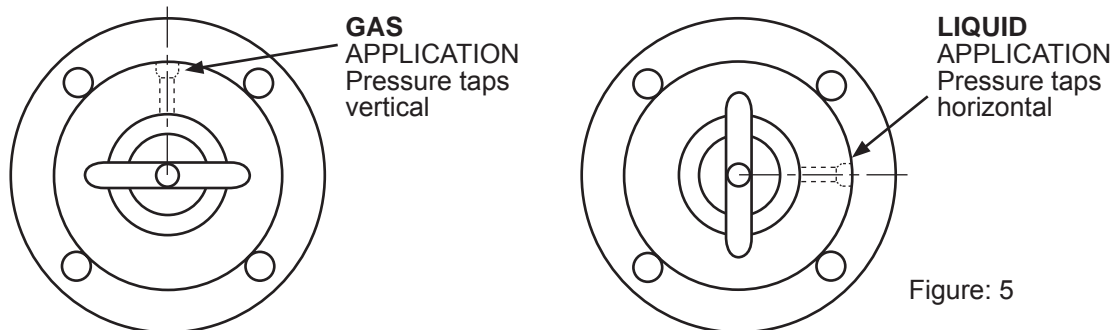

Figure: 5
Orient the mating flange bolt holes to allow clearance for plumbing (gauge lines) to the pressure taps (Figure 5).
Step 3	Set the meter body (or meter body with adapters) and centering rings onto the two lower bolts (Figure 12). The centering rings will support the meter body until all components are installed and secured by the flange bolts. Rotate the meter body to orient the pressure taps as needed (Figure 5 , page 6). Slide each flange gasket into place - the two lower bolts will keep them from falling.